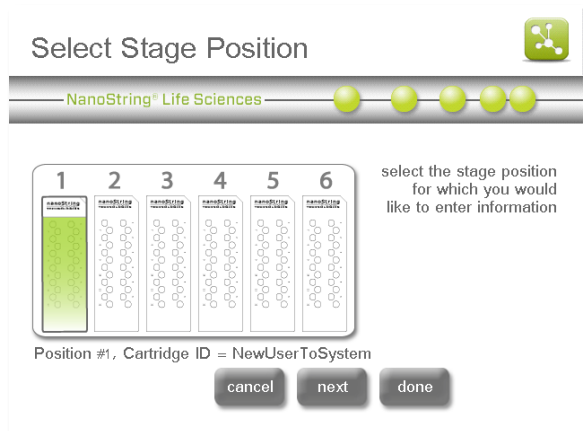

Figure 88: The 'Select Stage Position' screen.
7. The 'Select Stage Position' screen will appear (**Figure 88**).